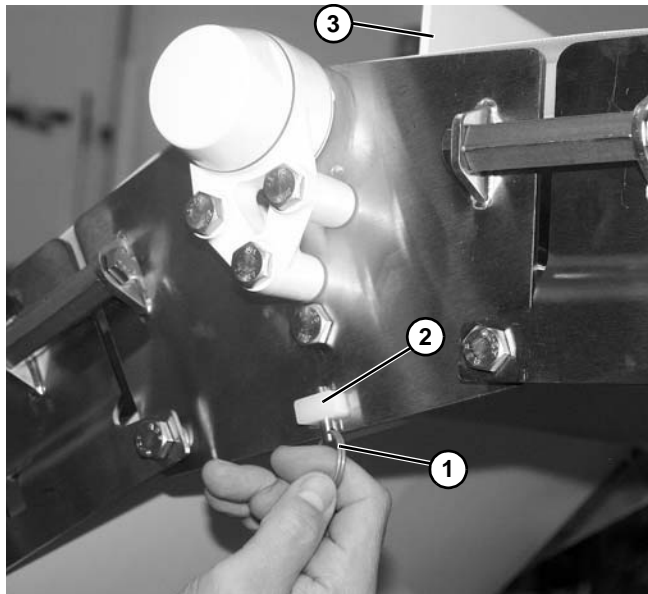

Figure 104
5. Remove pull pin (**Figure 104, item 1**) securing roller guard (**Figure 104, item 2**) on each side of conveyor on upper knuckle plate.